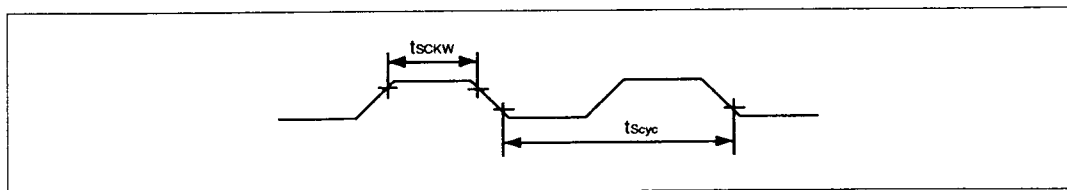

Figure 18-16 SCI Input Clock Timing
18.3.7 SCI Timing	Figures 18-16 and 18-17